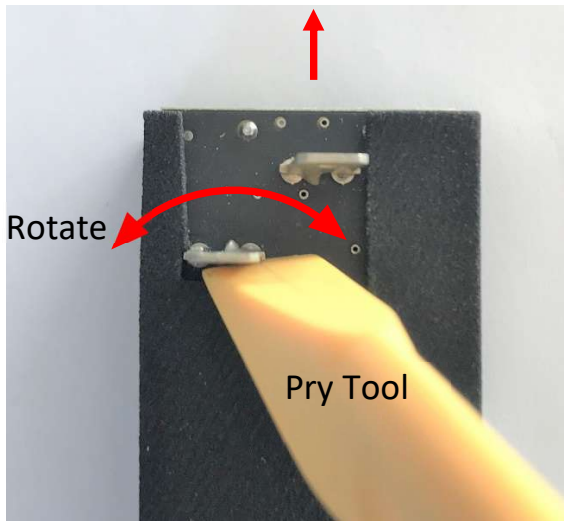

Figure 12 Alternate removal method
- Alternatively, wedge a plastic pry tool between the case and terminal and work it back and forth to push the electronics body out (Figure 12).